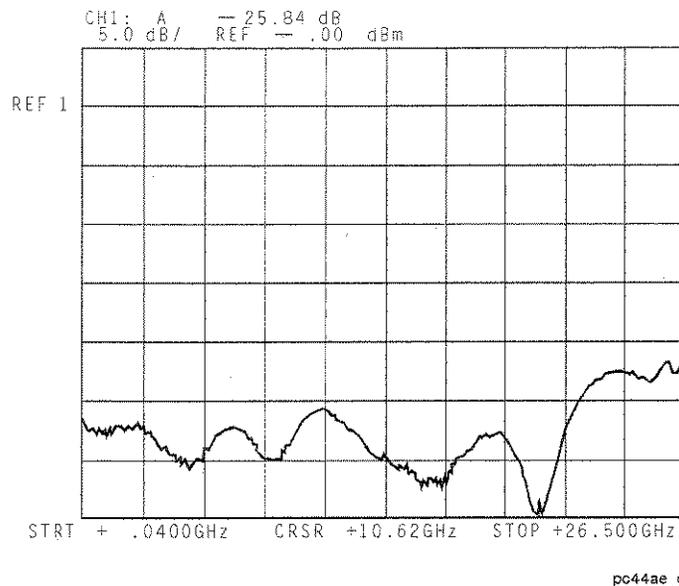

Figure 4-2.
14. On the analyzer, press FUNCTION **SCALE** **5** **dB**. The CRT display should be somewhat similar to Figure 4-2.